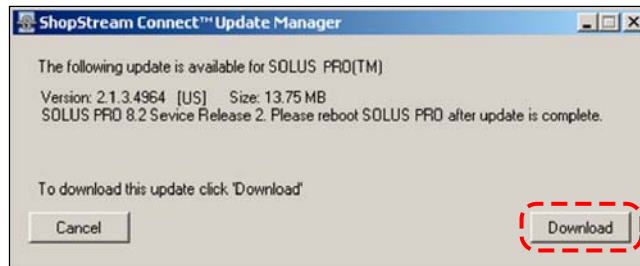

Figure C-13 Sample update available screen
- b. If an upgrade is available, a screen similar to Figure C-13 displays. Select **Download** to begin the upgrade process and continue to Step 6.